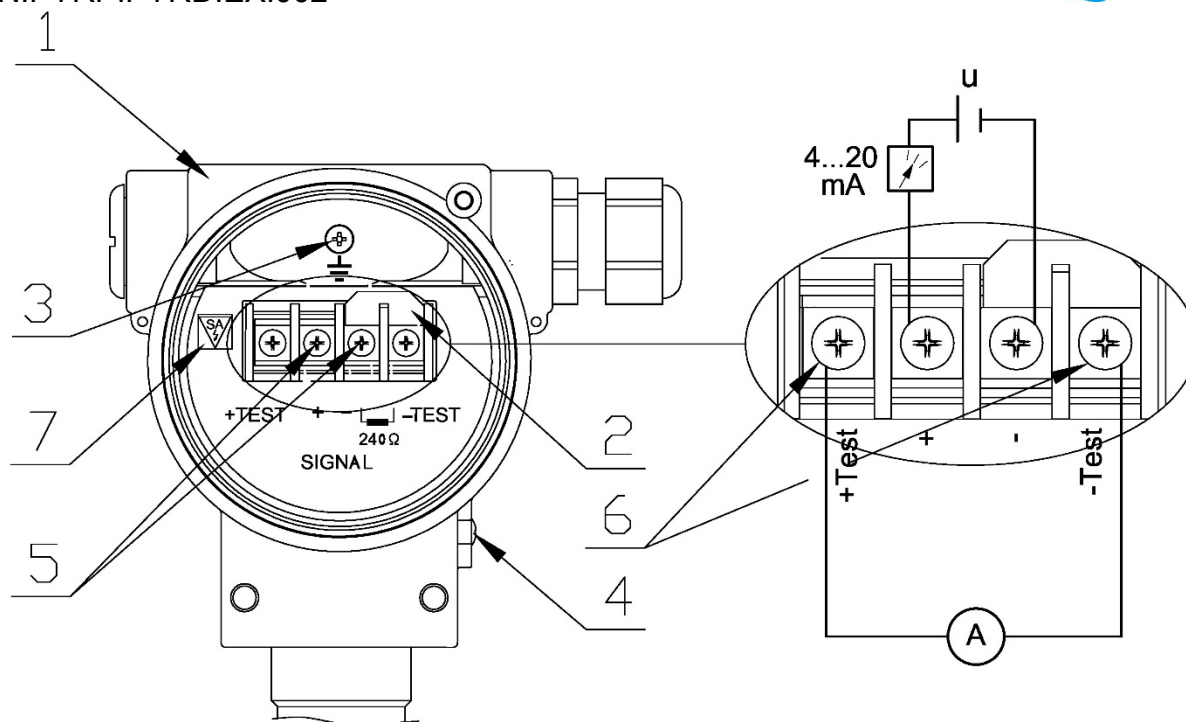

Figure 31. Electrical connection 4...20 mA of HART to transmitter.
- connect the transmitter according to Figure 31, paying attention to the correct securing of the screws fixing the conductor core to the terminal;
Ammeter connection diagram – see: (→Figure 31. Electrical connection 4...20 mA of HART to transmitter.).